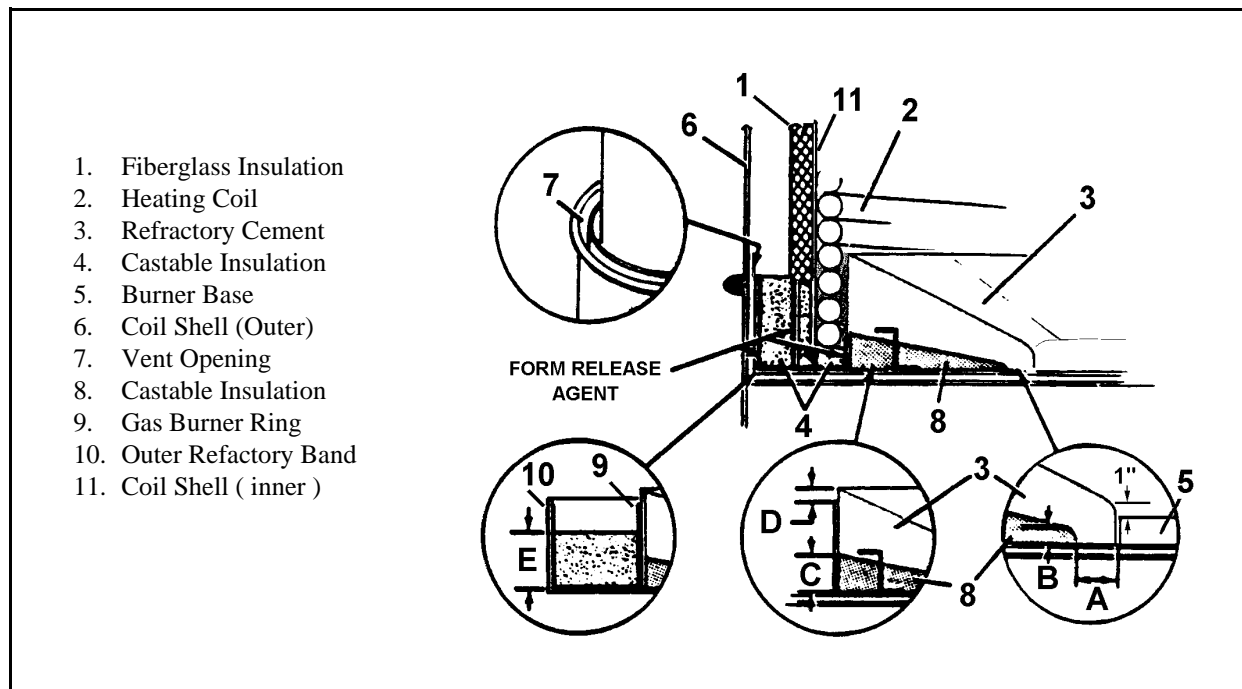

Figure 7-8 Burner Base
(See Figure 7-8.)
- b. Mix Castable Insulation with enough water to make a damp (not wet) pliable mixture. Fill Burner Base bottom with this mixture. Fill Burner Base bottom with this mixture and tamp firmly to about the dimensions shown in Figure 7-8.